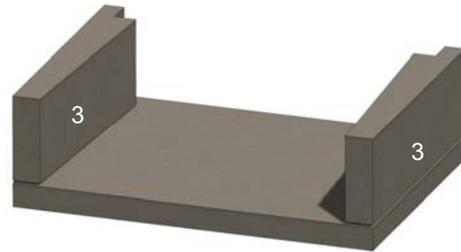

Figure 9. Lower Sidewalls
C. Install the lower sidewalls (3), ensuring they are level and square. See Figure 9.